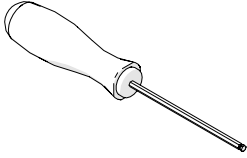

Fig. 38 - 3 mm hex driver
- ▶ 3 mm hex driver (Fig. 38).